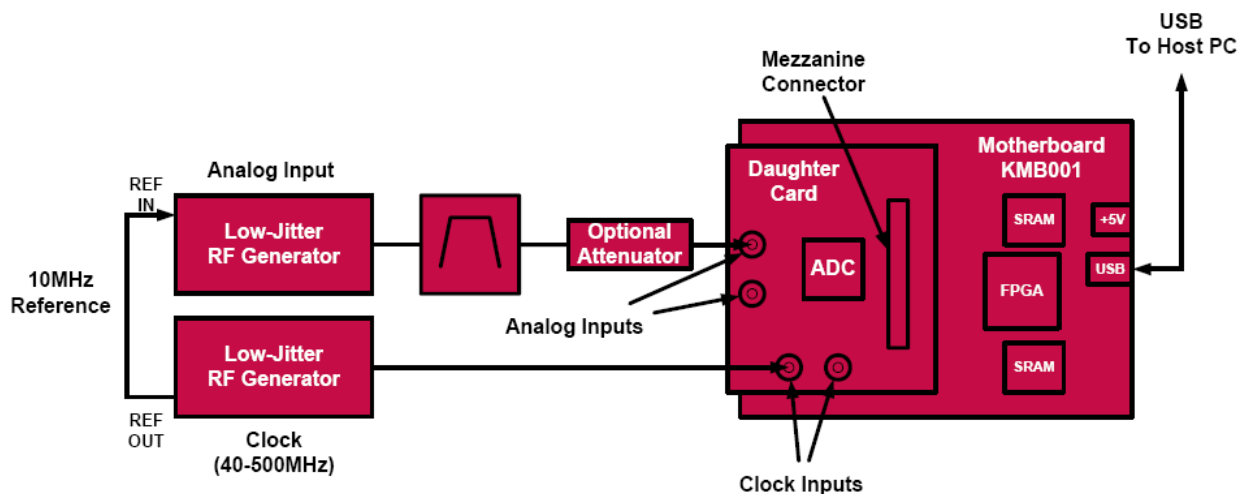
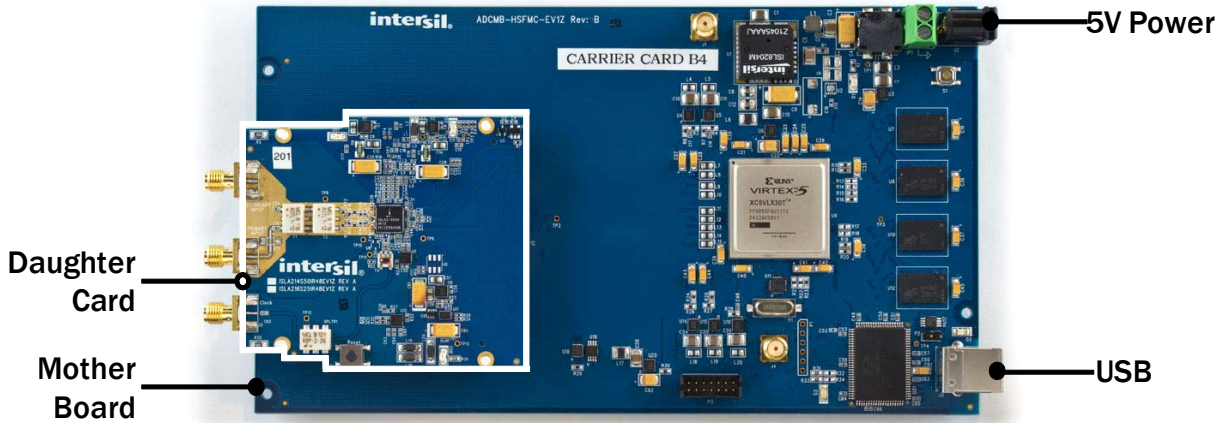

FIGURE 1. EVALUATION PLATFORM BLOCK DIAGRAM
FIGURE 2. EXAMPLE EVALUATION BOARD CONNECTIONS SHOWING ISLA214S50 DAUGHTER CARD
To begin testing, simply connect the input signal, sampling clock, and target computer to the motherboard, and supply power (Figure 1). The motherboard (ADCMB-HSFMCEV1Z) provides appropriate supply voltages and captures digital data from the daughter card. Daughter cards contain the ADCs and attach directly to the motherboard to form the ADC evaluation platform (Figure 2). To ensure proper operation of the system, it is recommended that the most current software version be installed. If Intersil iEvalADC is already installed on the machine, a new installation may proceed without removing the prior version.
6. Setup the hardware as shown in Figure 1.